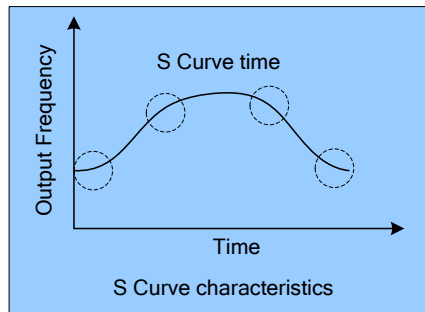

Fig. 19.4
- 6.) When S curve time (A023 / A024) is greater than 0 sec., the acceleration and deceleration action is as shown in Fig.19.4.).